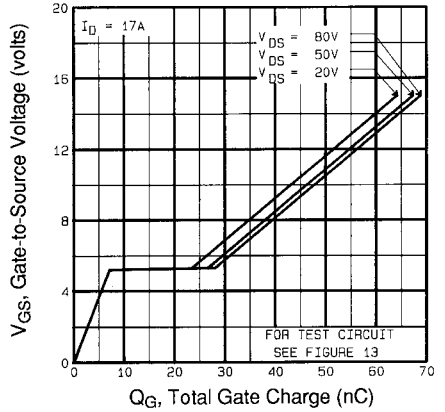

Fig 6. Typical Gate Charge Vs. Gate-to-Source Voltage
| Q_{gd} | Gate-to-Drain ("Miller") Charge | — | — | 32 | | $V_{GS}=10V$ See Fig. 6 and 13 ④ |